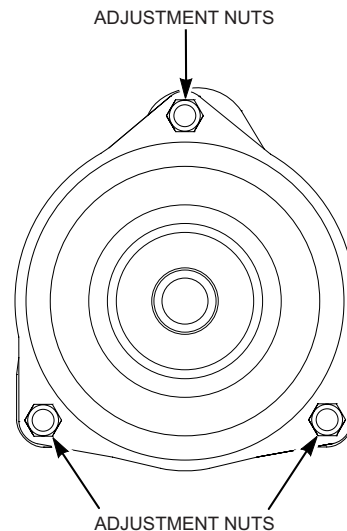

Figure 6-12. Clutch Air Gap Adjustment
3. Tighten or loosen the adjusting bolt as needed to achieve the 0.015 inch air gap. See Figure 6-12. Perform this operation at all three inspection windows.